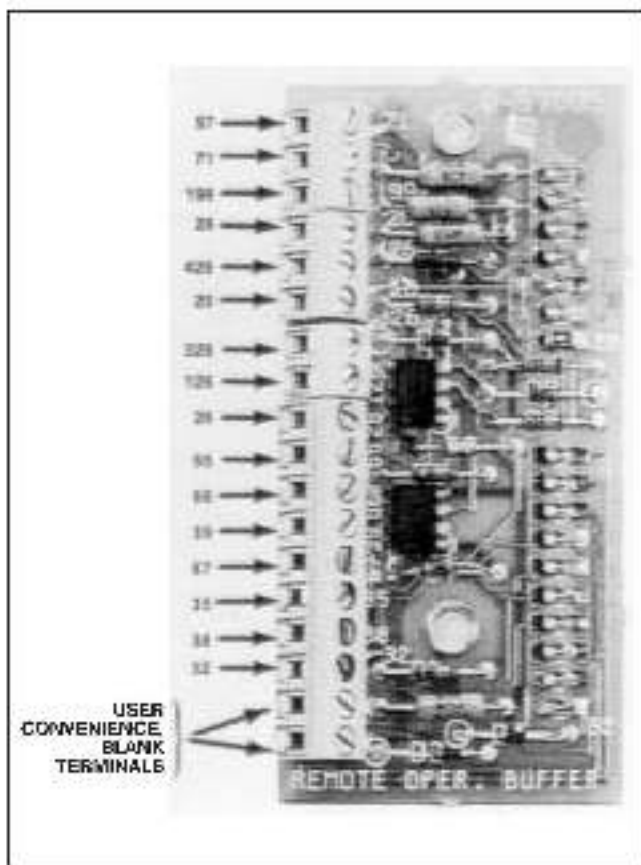

Figure 3.6 – Remote Operator's Buffer Terminal Markings
Step 3 – On the Regulator Module, locate the scaling pins. (Refer to Figure 3.6.) Near them, locate the black pig-tail type jumper. Do not move it if it is connected to the proper pin. If it must be reconnected, carefully lift connector housing straight up and off the pin. Slide the connector straight down over the proper pin.
3.6 Regulation Mode Jumper – The MinPak Plus controller of drive regulation. The first, which is factory shipped, is armature voltage feedback (A).